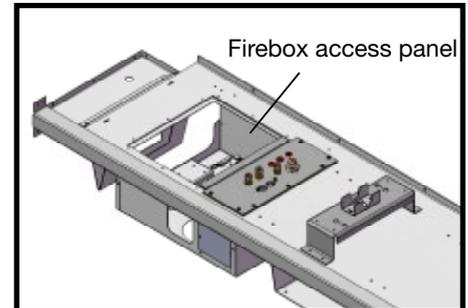
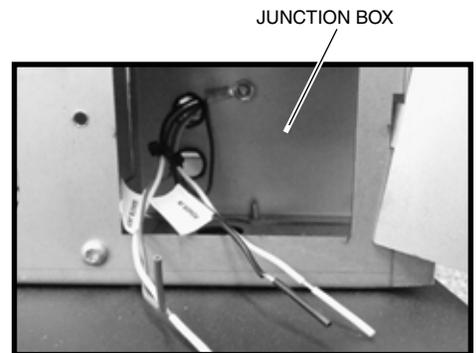
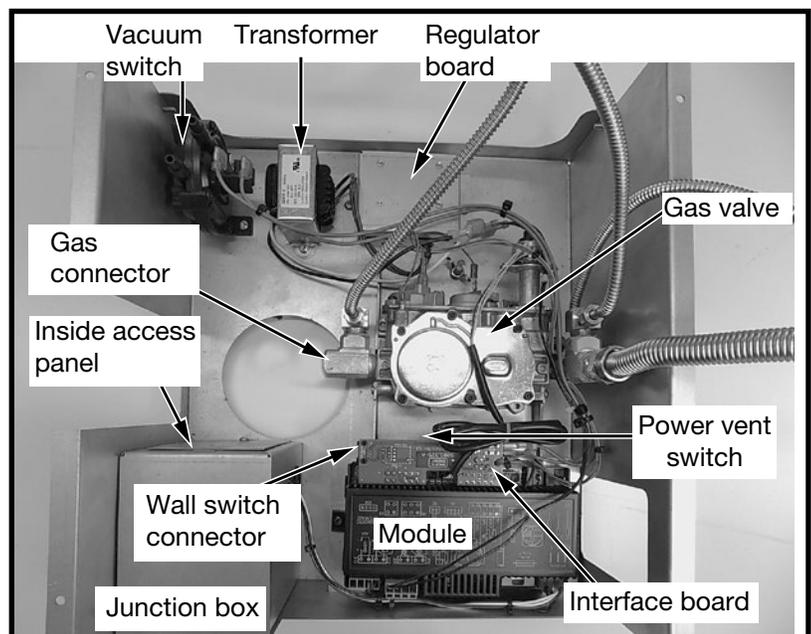
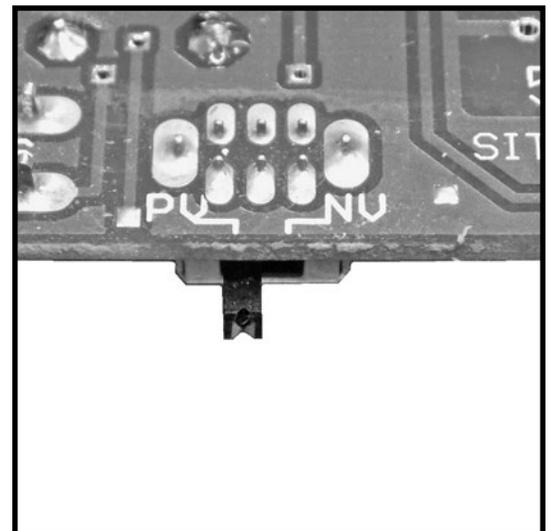

Figure 27: Firebox access panel.
Figure 28: Junction box wiring.
Figure 29: Valve assembly components.
Figure 33: Vent mode selection switch.
3. Remove access panel from bottom left hand side of the firebox (Figure 27).
4. Ensure that the switch on the IFC board is set to PV (Power Vent) (Figure 29).
5. Connect 110 V. AC electrical supply to the wires installed inside the junction box (Figure 27). The fireplace is rated at 110 volts, 60Hz, 0.25A. The optional power vent kit is rated at 115 volts, 60Hz, 1.8A. The electrical wires can be accessed from both inside and outside the junction box by removing one of the two small access panels (Figure 28 and Figure 29).
8. Attach one end of the wall switch control cable to the interface board (Figure 29), and the other end to the wall control (Figure 31).
The NV/PV (Natural Vent / Power Vent) switch (Figure 33) on the interface board (Figure 29) is set according to which type of evacuating vent system is present. In all cases with the TCWS54STOK fireplace, the NV/PV switch MUST be set to PV.
1. Connect the gas supply to the gas connector (Figure 29)